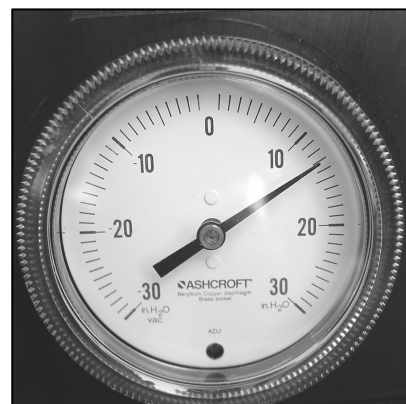

Figure 8
1. Be sure the Tester has completed the Phase-one flow test by referring back to Phase-one instructions in this manual. Remember that the Phase-one test is completed when the flow meter's ball stops descending. At that time the pressure gauge will indicate full system pressure. (Figure 8)